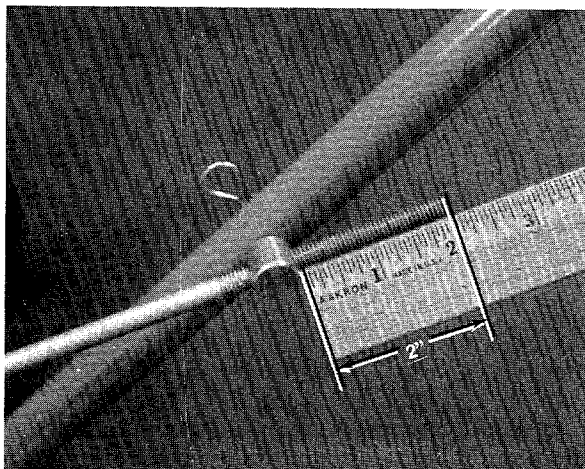

FIGURE 13
8. Figure 13 shows engagement rod setting for fourth lowest cutting height.